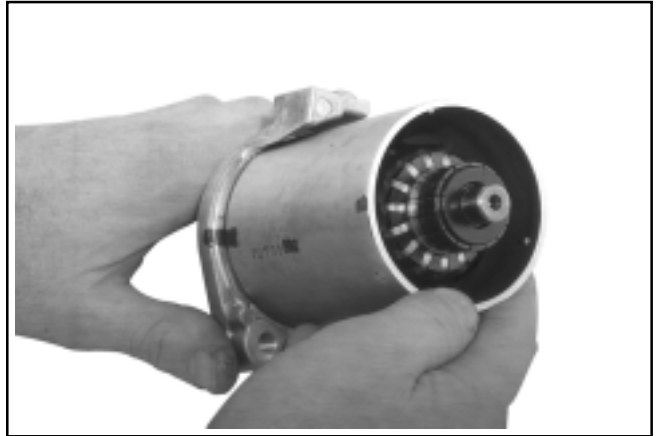

Figure 8-39. Installing Frame.
3. Install the starter frame (magnet end first) over the armature, aligning the scribed marks made earlier. See Figure 8-39.